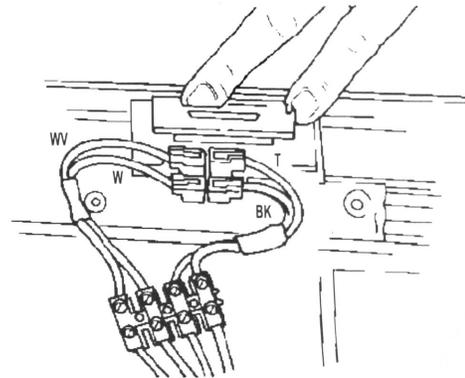

Figure 12
12. Properly align the latch assembly in the console, as shown in Figure 12. (Note alignment of colored wires.)
13. Connect the black and tan wires from the wire connector to one switch, and connect the white and white/violet wires to the other switch, as shown in Figure 12.